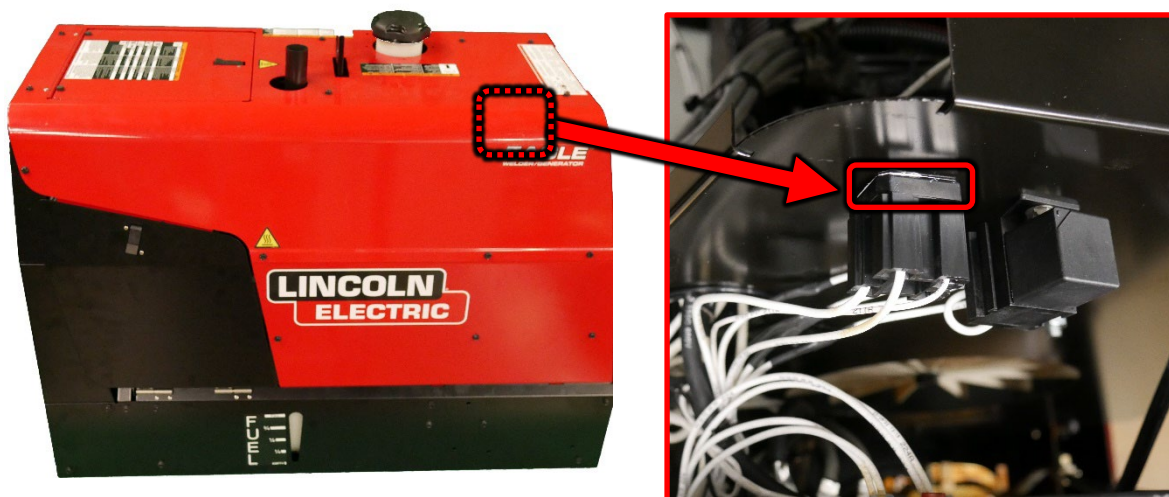

Figure F.1
1. For location of the J6 (D2) Rectifier refer to Figure F.1.